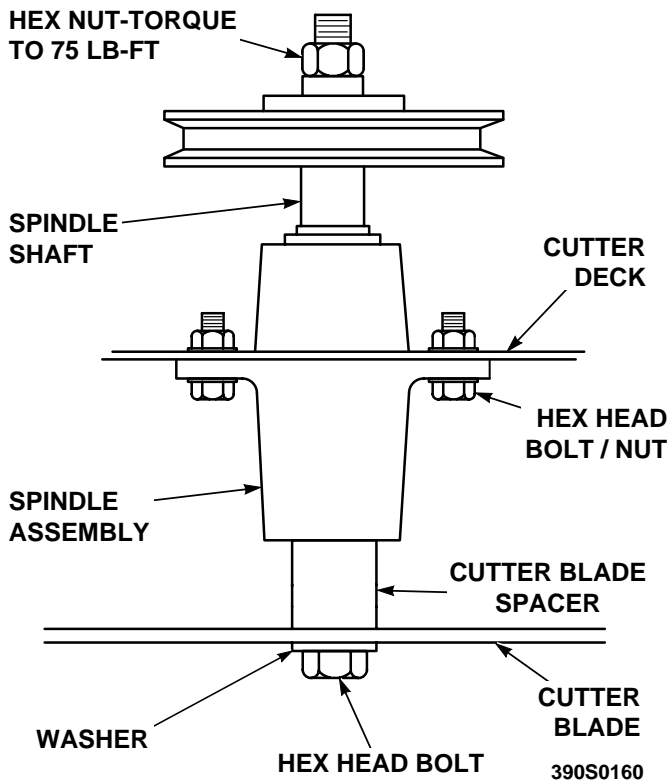

Figure 7-10 Blade Replacement
- Secure the cutter blades to prevent them from rotating, (Use the optional Blade Buddy tool, P/N 9212, to assist in securing the cutter blades), remove the nut from the blade attaching bolt. Remove the cutter blade, bolt and spacer from the spindle shaft. (Figure 7-10).
- Install the hex nut to the blade bolt at the top of the cutter spindle. Secure the blades from rotating and torque to 75 ft-lbs. (See Figure 7-10)